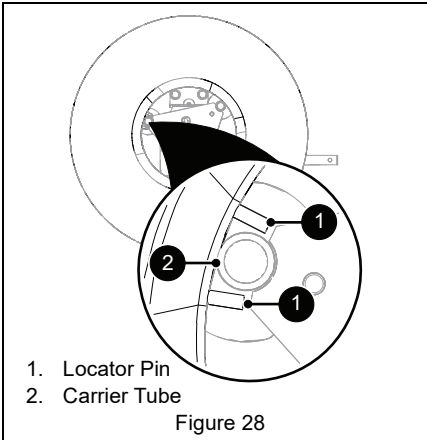

Figure 28
1. Install 11 bristle disks on top half of brush head. For each disk, align locator pins clockwise from previous to evenly load carrier. See Figures 28 and 29.